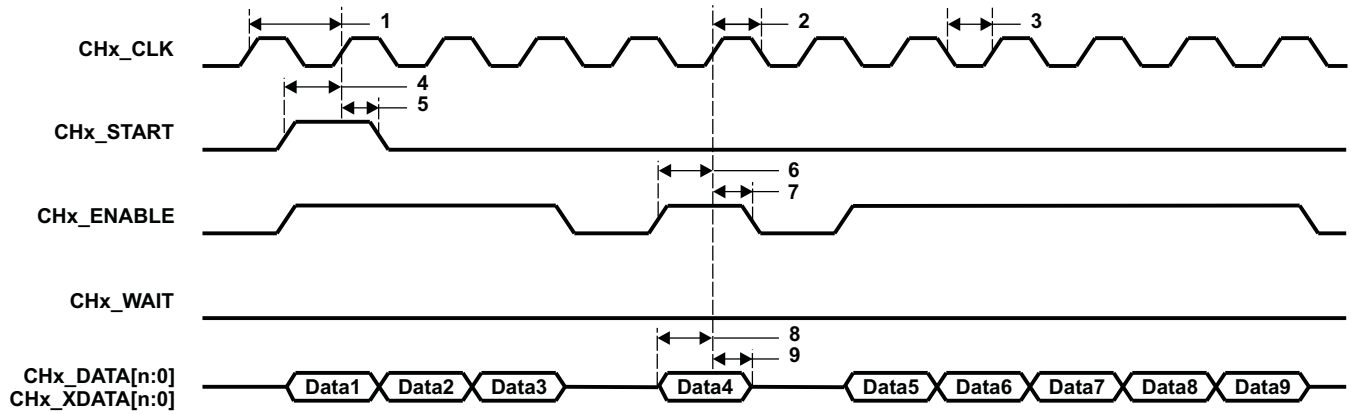
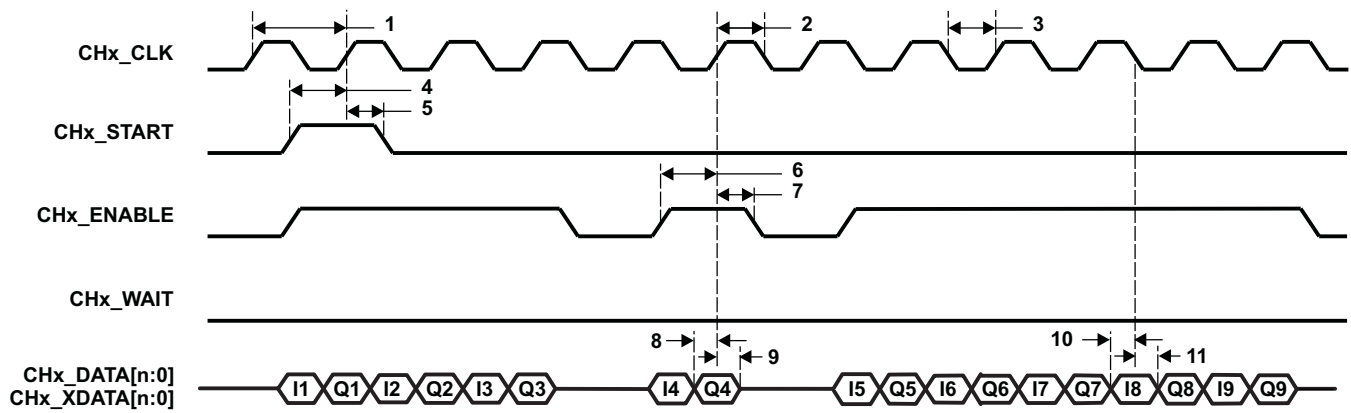
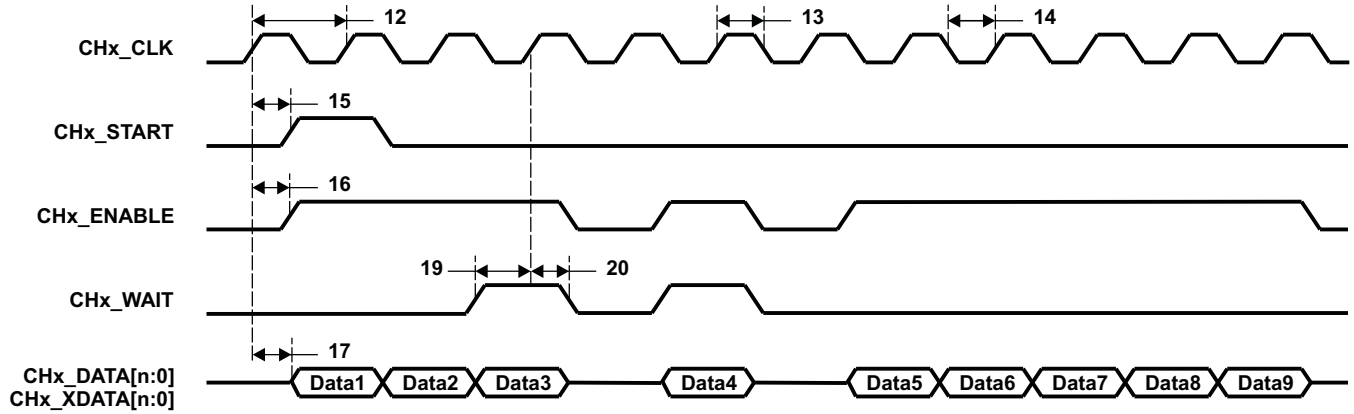
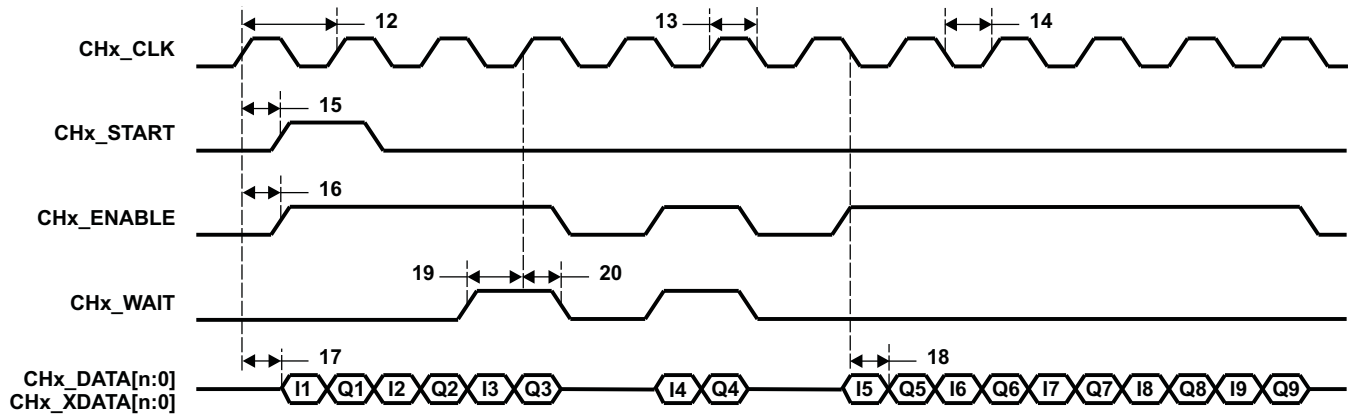

Figure 6-71. uPP Single Data Rate (SDR) Receive Timing
Figure 6-72. uPP Double Data Rate (DDR) Receive Timing
Figure 6-73. uPP Single Data Rate (SDR) Transmit Timing
Figure 6-74. uPP Double Data Rate (DDR) Transmit Timing
**Table 6-116. Timing Requirements for uPP (see Figure 6-71, Figure 6-72, Figure 6-73, Figure 6-74)**